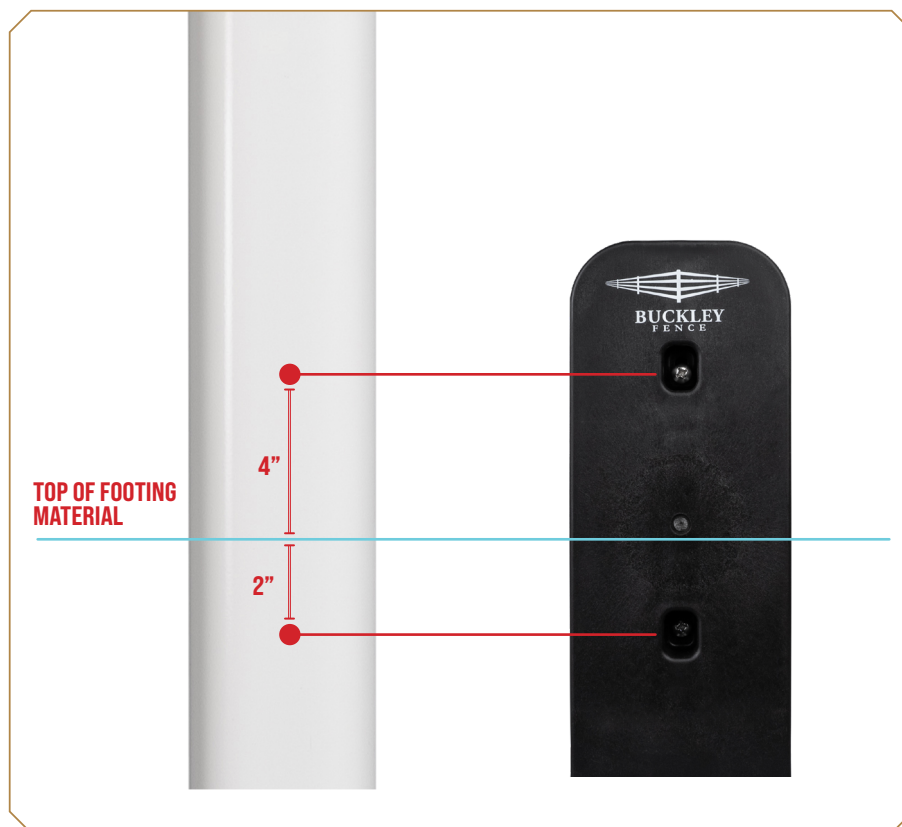

Figure 1
1. Using a step drill, drill one ½" hole on each marked line (4" above top level of footing material and 2" below top level of footing material). Each hole should be drilled approximately on the center of the post face (2 ⅞" from the edge of the post). (Figure 1) It is okay if the drill walks off the line you measured since the mounting holes are slotted to provide minor adjustments.